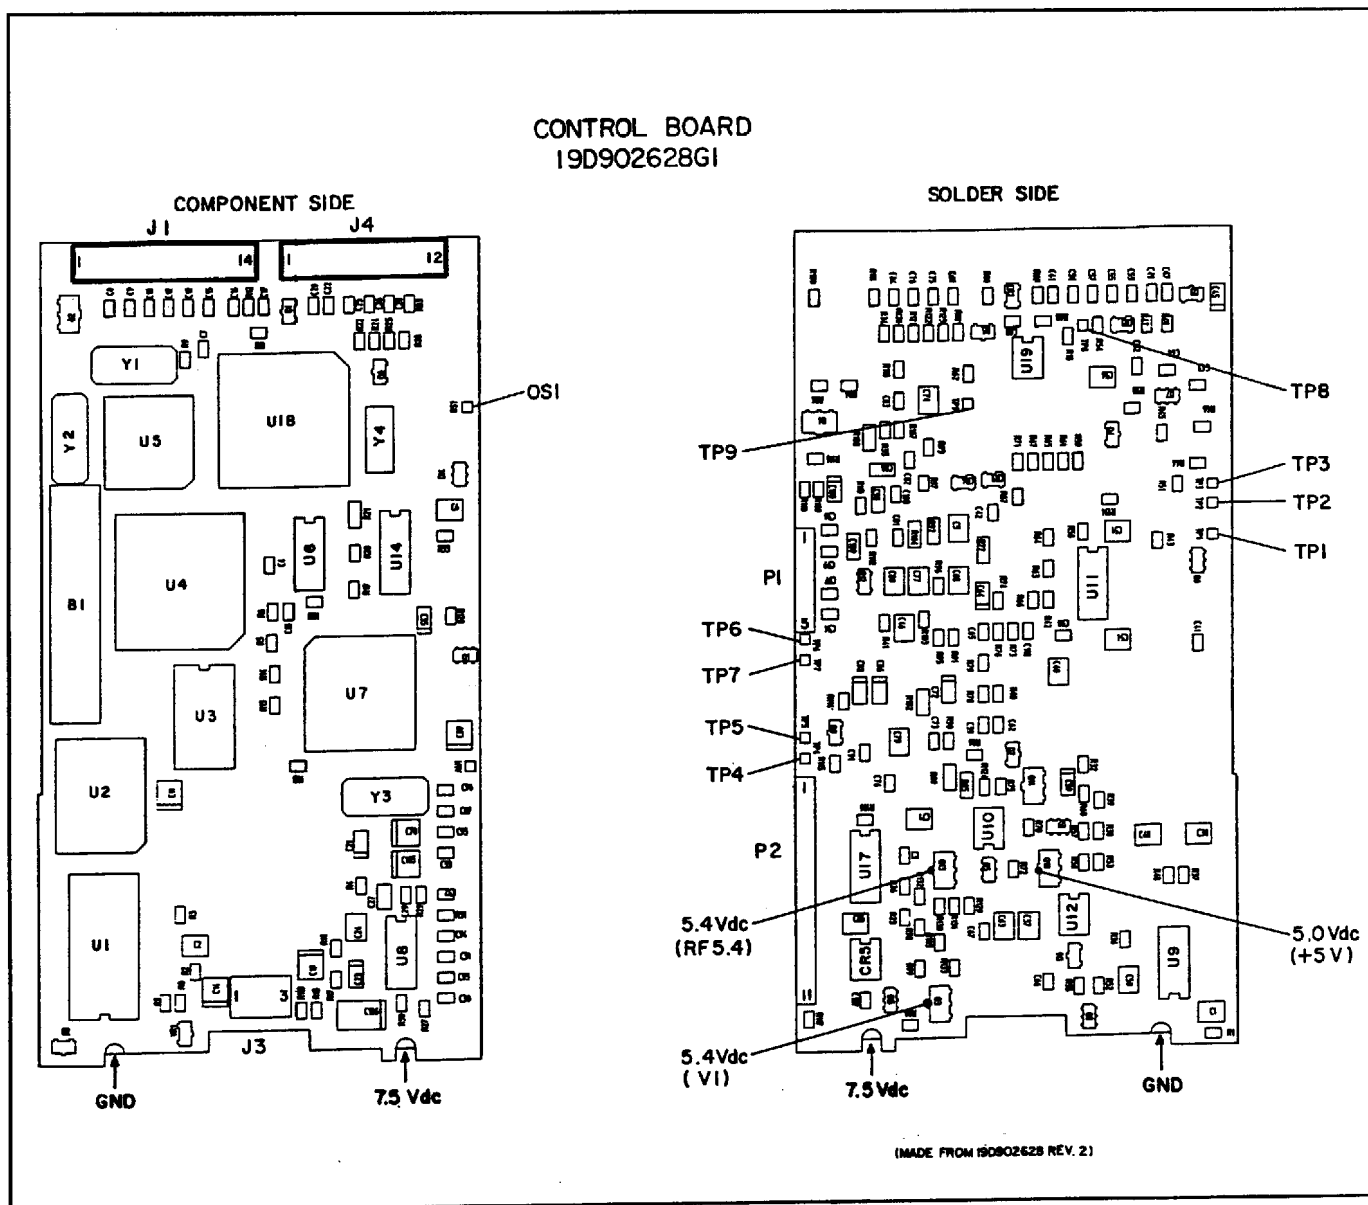

Figure 13 - Control Board Test Point Locations
2. Using clip leads, apply power (7.0 - 9.0 Vdc) to the Control Board at the bottom mounting holes. **OB-SERVE POLARITY.** See Figure 13.